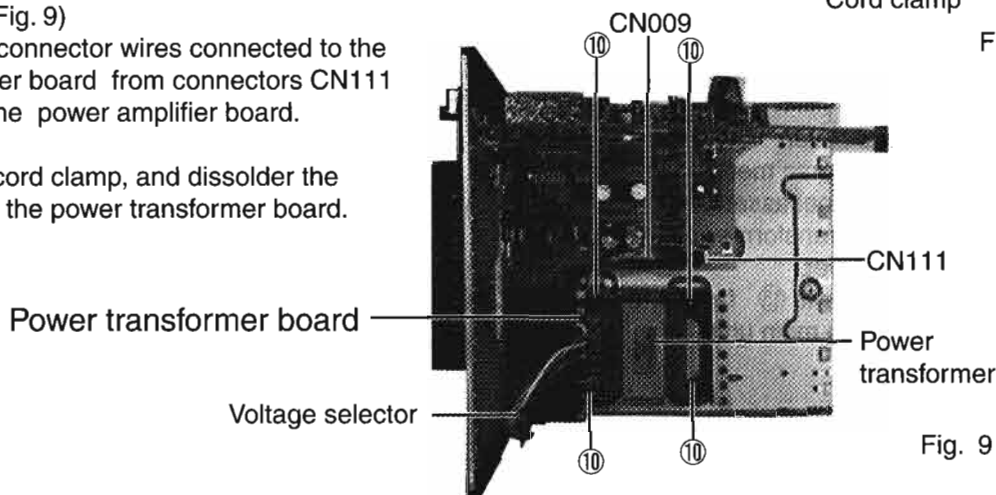

Fig. 9
5. Remove the four screws ⑩ fastening the power transformer assembly to the back side of the main unit.(See Fig. 9)
5. Disconnect the connector wires connected to the power transformer board from connectors CN111 and CN009 on the power amplifier board. (See Fig. 9)